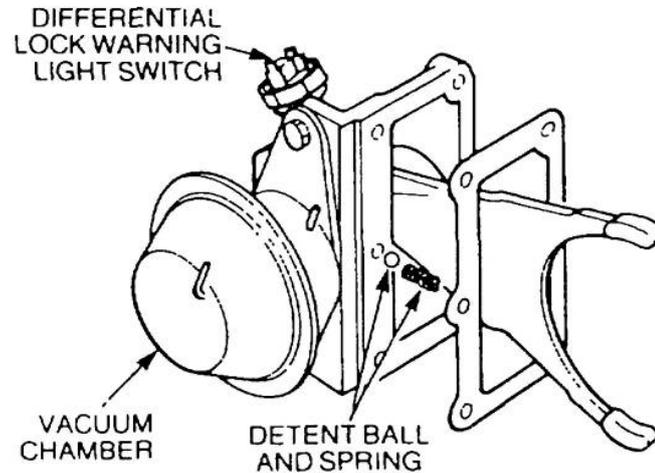

Figure 69 Removal of the Differential Lock Vacuum Chamber Assembly
- m.** Remove the four bolts and lock-washers retaining the differential lock vacuum chamber assembly (Figure 69). Remove the differential lock vacuum chamber assembly and discard the gasket and lock-washers. Take care not to lose the detent ball and spring during removal.